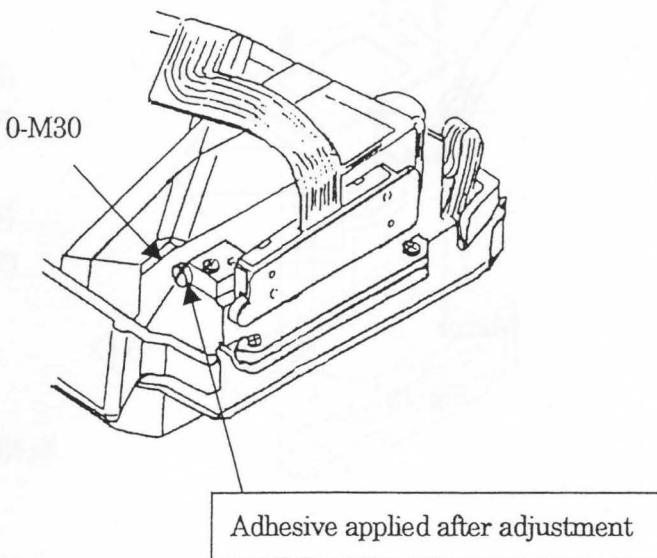

Fig. 18
- (1) Fit AE Pentaprism Finder 67II to the 67II camera.
- (2) Turn power on to the body and half-press shutter button to turn on LCD display in the viewfinder.
- (3) Turn O-M30 with a screwdriver and find out for position in which LCD display is not lost. (Fig. 18)
- (4) After adjustment, apply adhesive and check again after drying.